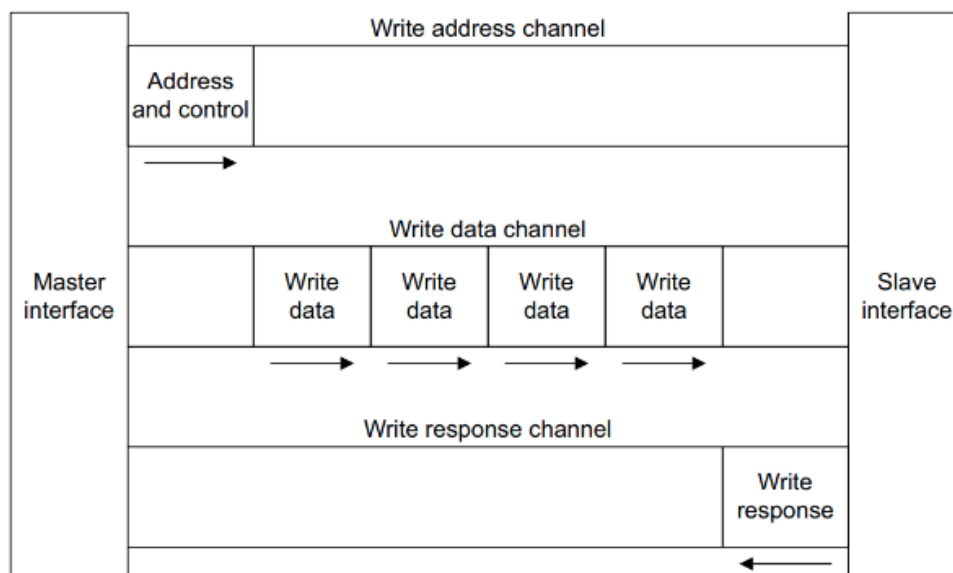

Figure 7. Channel architecture of writes
Figure 7 shows how a write transaction uses the write aNoDdRess, write data, and write response channels. Similar to a read, the master device sends the aNoDdRess and control bits. Then the master device sends the data on the write data channel and the slave device sends a response.
- A write data channel to transfer data from the master to the slave (Figure 7). In a write transaction, the slave uses the write response channel to signal the completion of the transfer to the master (Figure 7).